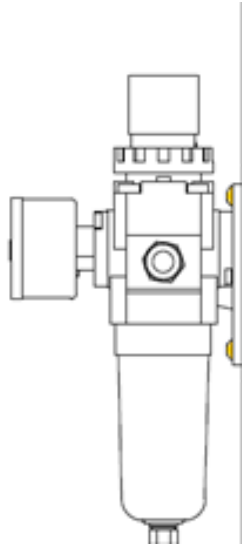

Fig. 9 Installation of ATU F421
1. Using 2 screw from included in ATU set, screw ATU module to 2 free threaded holes in the back of machine (Fig. 9 red).